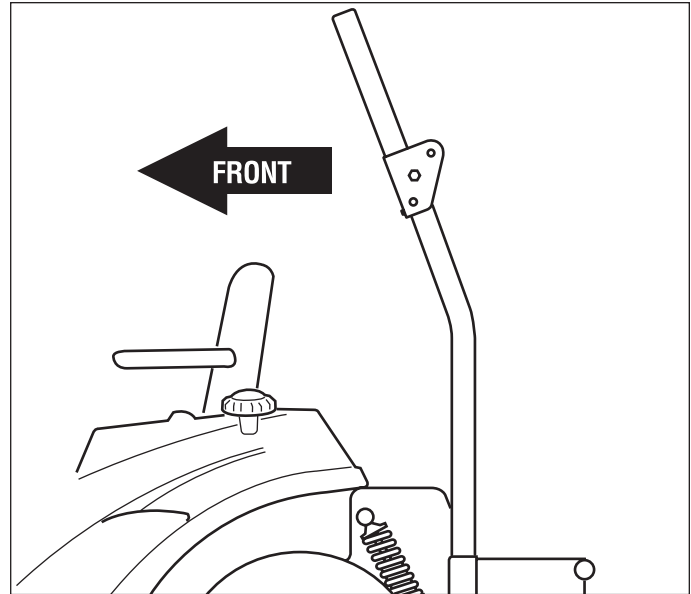

Figure 9. Upright Tube Orientation
2. Install the upright tube (A) (refer to Figure 9 for correct orientation) on the outside of the bumper (B) as shown in Figure 8 and loosely reinstall the 1/2" hardware previously removed.
**IMPORTANT:** Make sure the upright tubes are angled towards the front of the unit. See Figure 9.